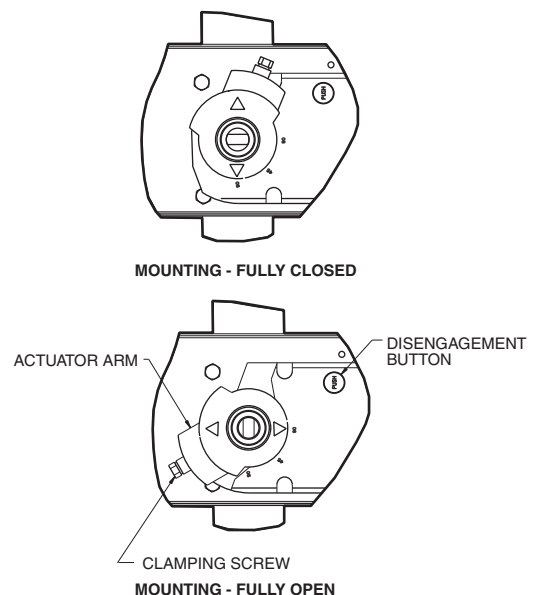

Fig. 46 — Ball Valve Motor
See Fig. 46 for a view of the ball valve motor mounting with a fully open valve. The motor actuator arm should be at a counterclockwise position, with the valve shaft in a parallel position. If not in a parallel position, loosen the clamping screw and push the disengagement button to rotate the actuator arm until it stops. Retighten the clamping screw.
2. With the compressor off hold down the Disengagement (Push) button. See Fig. 46.